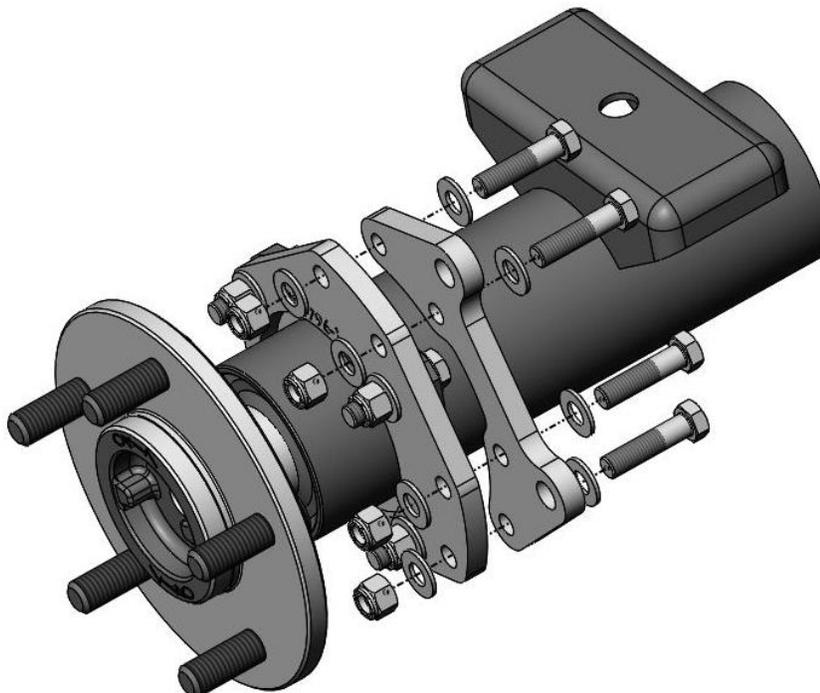

Figure 3 – Caliper Mounting Brackets Installation
7. Using the provided 3/8"-24 x 1.500" Grade 8 Hex Head Bolts, 3/8" SAE Flat Washers, 3/8"-24 Nyloc Nuts, install the Secondary Caliper Mounting bracket to the inboard side of the Primary Caliper Mounting Bracket. Once in position, install a 3/8" SAE Flat Washers and 3/8"-24 Nyloc Nuts and torque to 40 lb/ft. Figure 3 below shows the bracket installation.